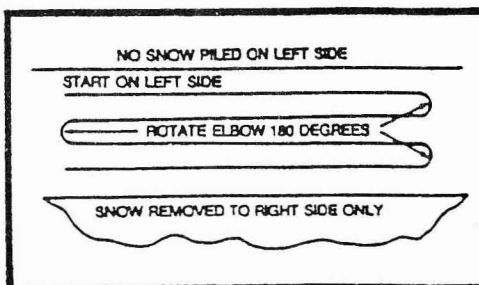

FIG. 24
- If snow can only be thrown to one side of the driveway or sidewalk, start on the opposite side. At the end of each succeeding pass rotate the Discharge Chute 180° to maintain direction of snow throw into the same area. (See Fig. 24)